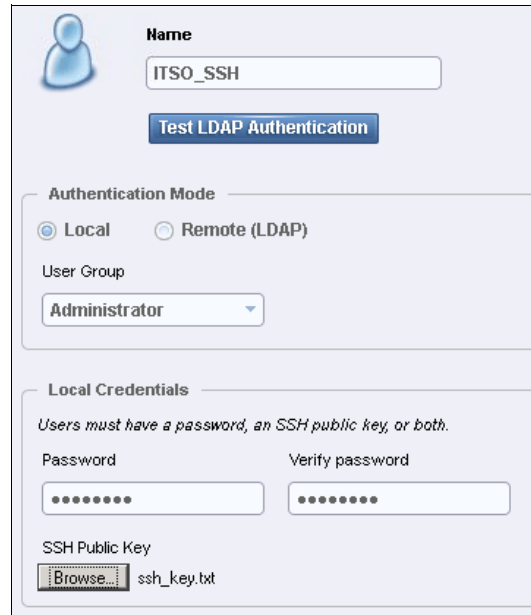

Figure A-8 Select public key
3. To upload the public key, click **Browse**, select your public key, and click **OK** (Figure A-8).